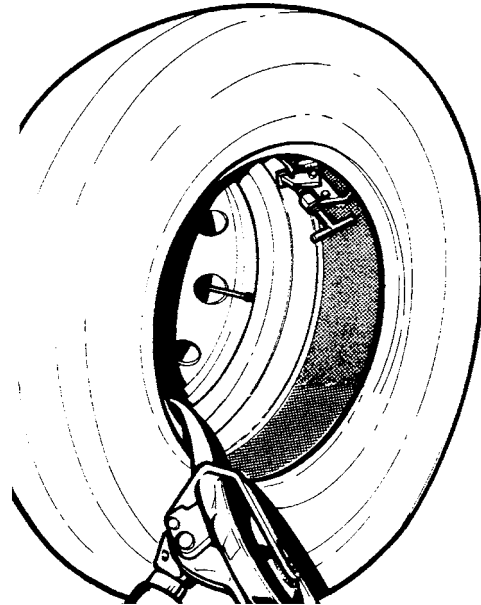

Fig.33
1. Hang the inner bead of the tire on the mounting clamp (fig.33).